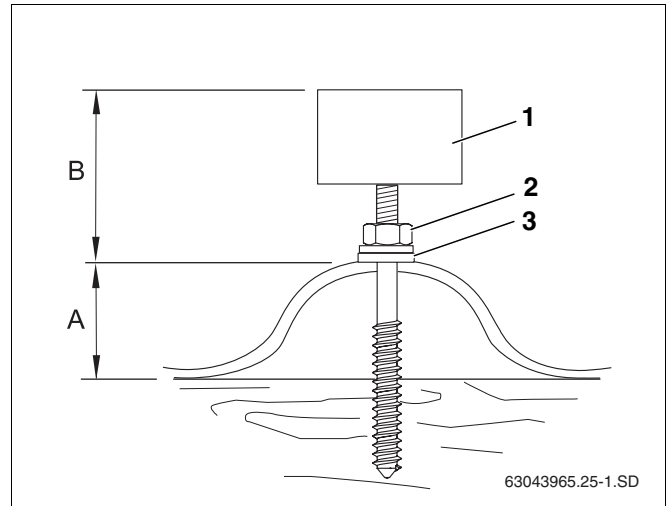

Fig. 24 Carriage bolt fitted to corrugated roof
When screwing in Carriage bolts, ensure that the distance B (Fig. 24) is the same for all carriage bolts.
- ▶ Tighten the nuts (Fig. 24, **Item 2**) until the sealing disc (Fig. 24, **Item 3**) is lying completely flush on the roof.